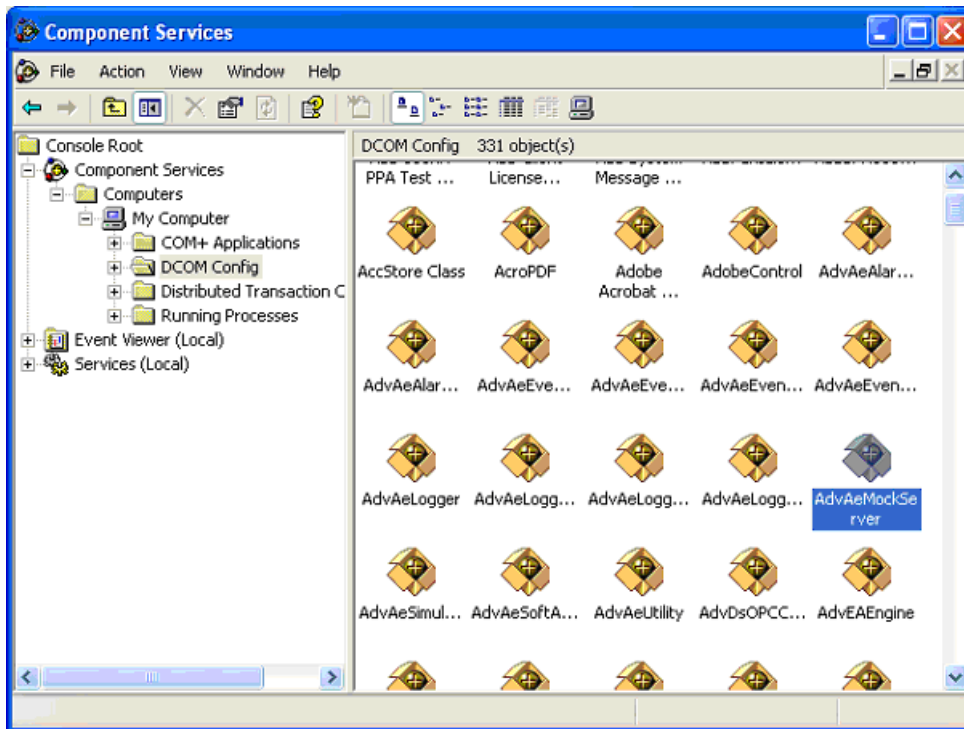

Figure 278. Component Services
2. Locate the server that should be activated remotely. See Figure 278.